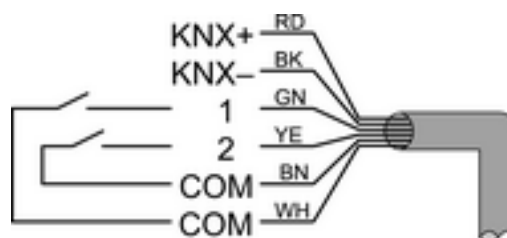

Figure 2: Connection assignment of control cable
- If necessary, connect potential-free contacts to the inputs (figure 2).